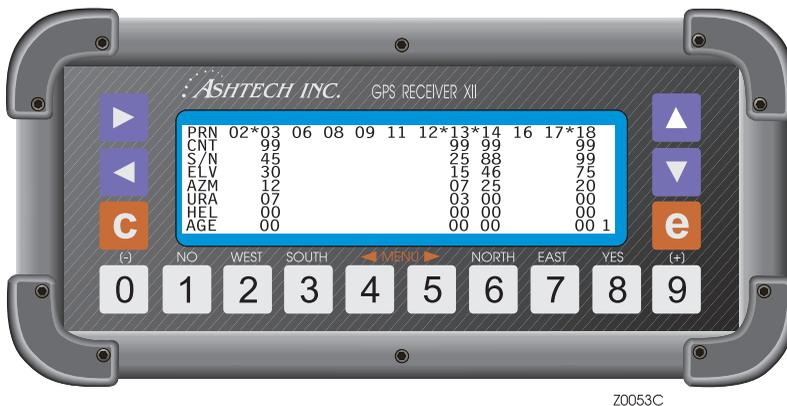

Figure 5.3. Screen 1
6. Move the rover to the next unknown point. Maintain lock on 4 satellites at all times. Periodically review Screen 1, Figure 5.3, to see if cycle slips (loss of lock) occur. If a cycle slip occurs, the receiver resets CNT (number of epochs collected) to 0.